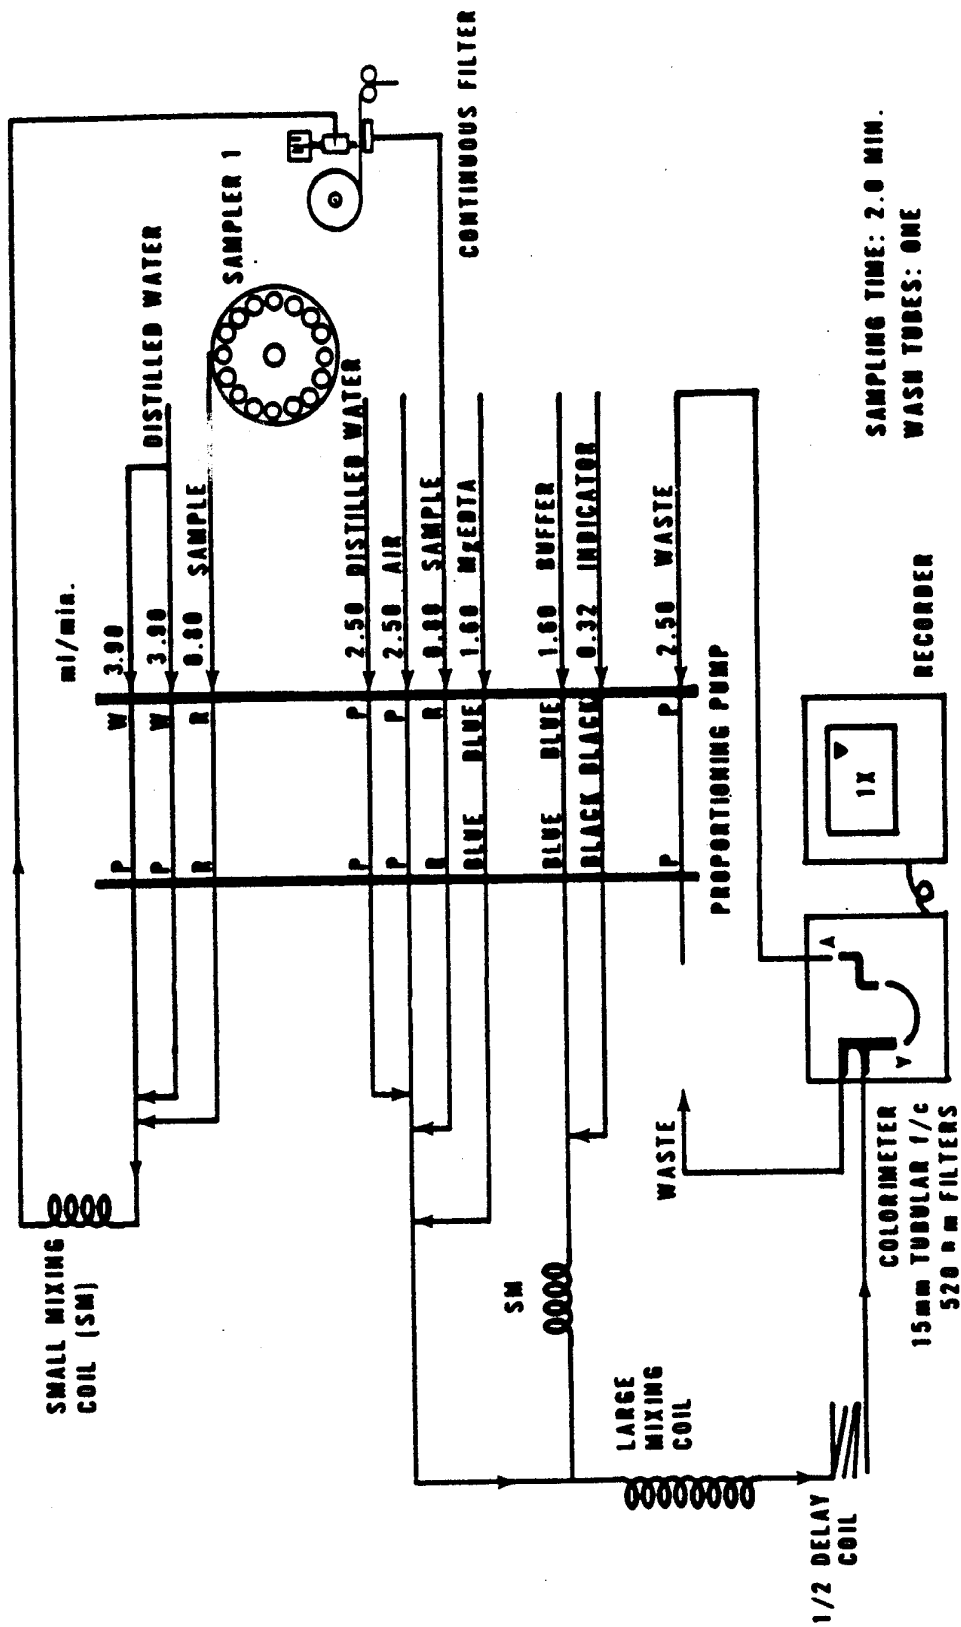

FIGURE 1. HARDNESS MANIFOLD AA-1
- 7.3 Set up manifold as shown in Figure 1.